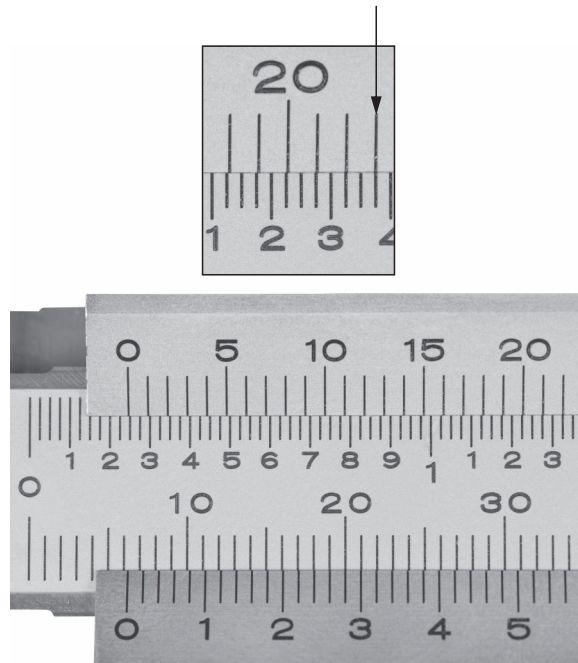

Figure 32: Reading a vernier caliper.
4. Which of the following measurements corresponds to the reading in inches shown in Figure 32? The small arrow shows a detail of the vernier scale.